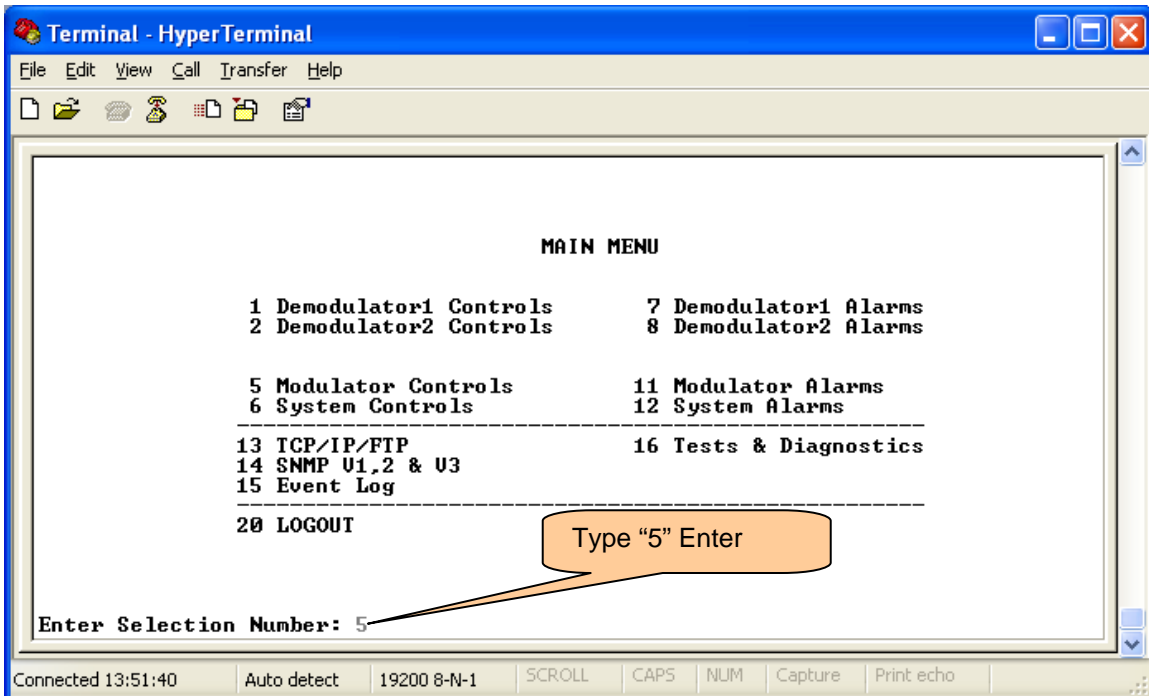
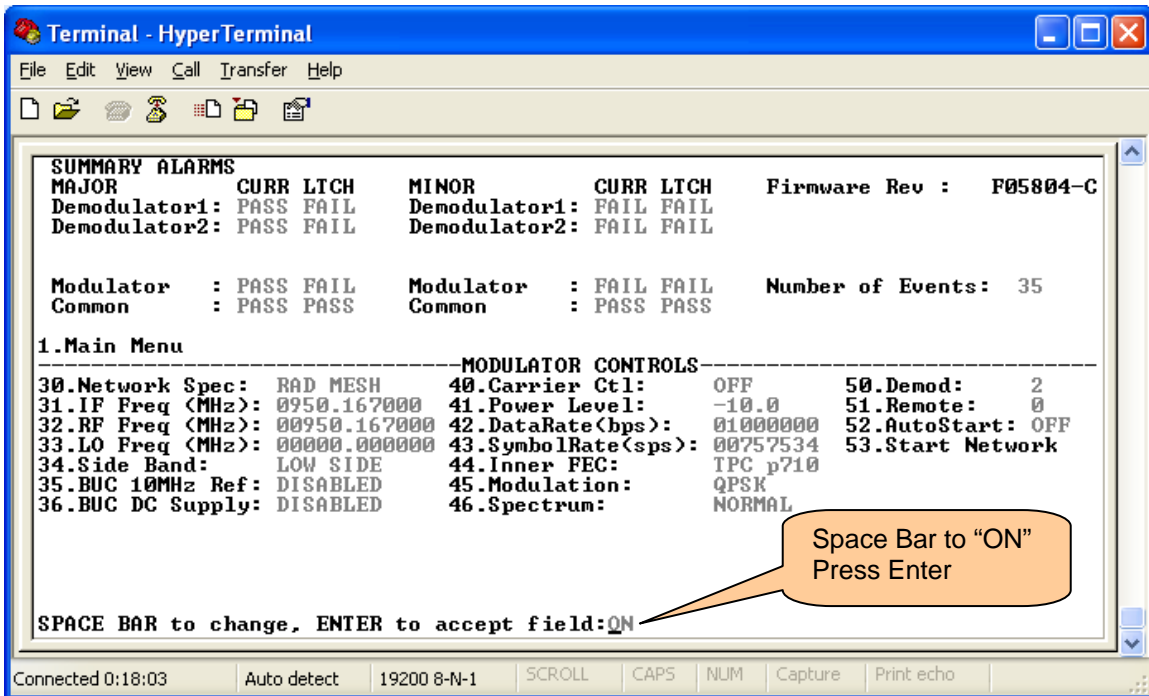

Figure 3 – “5” MDX420 Modulator Controls
Figure 9 – Enabling the modulator carrier on the MDX420
1. Log into the MDX420 Gateway and set the source unit for the following output, see Figure 3 through Figure 9.